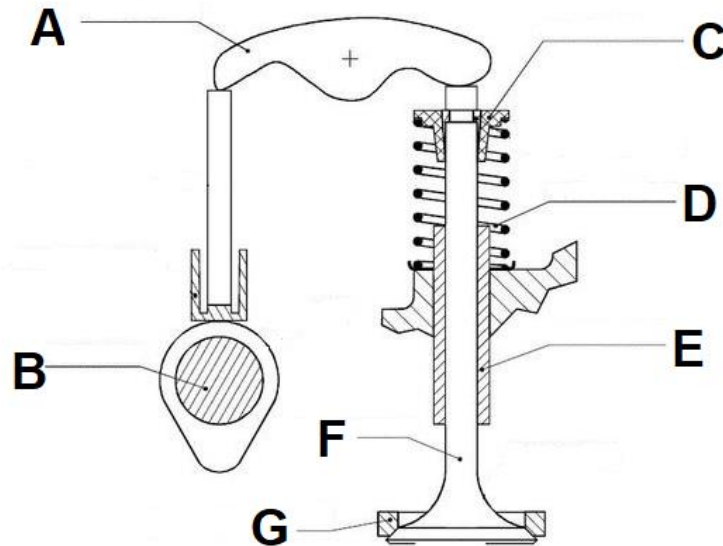

FIGURE 1
2.2 FIGURE 1 below shows the parts of an internal combustion engine.